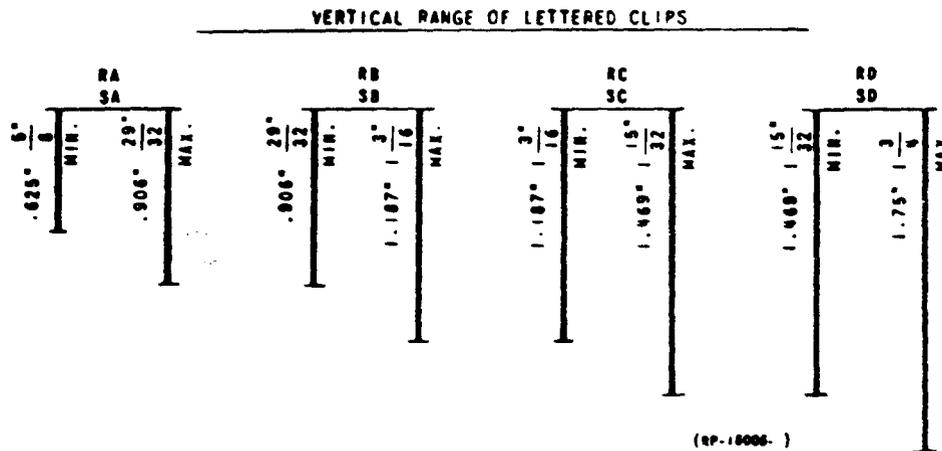

FIG. 3 VERTICAL RANGE OF FLAT TYPE CLIPS USED FOR CLIPPING SWITCHBOARD CABLE (PAR. 3.41)
3.41 The maximum and minimum heights of cable groups that the different clips will accommodate are shown in Figure 3.